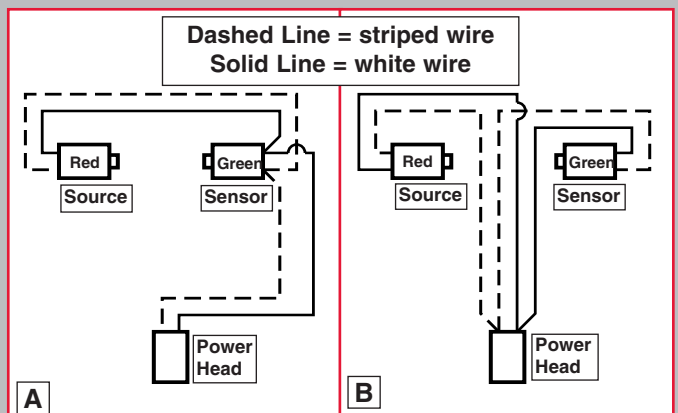

FIG. 2-5 STB wiring methods
- Route wire (37) using either method shown (Fig. 2-5).